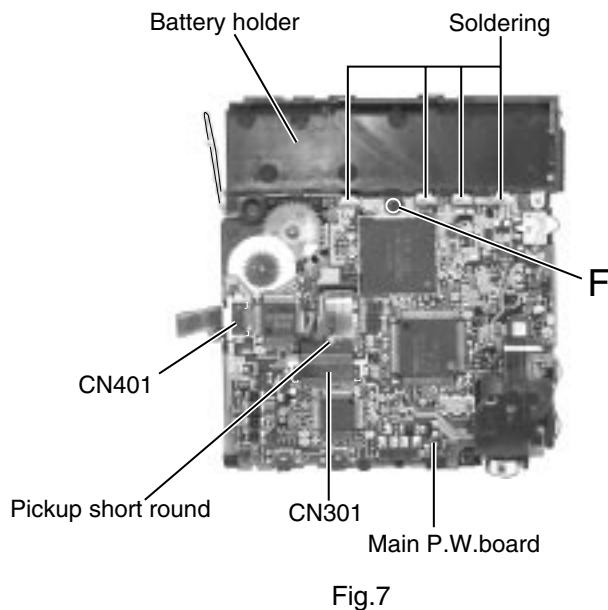

Fig.7
■Removing the main P.W. board and the battery holder(See Fig.7 and 8)